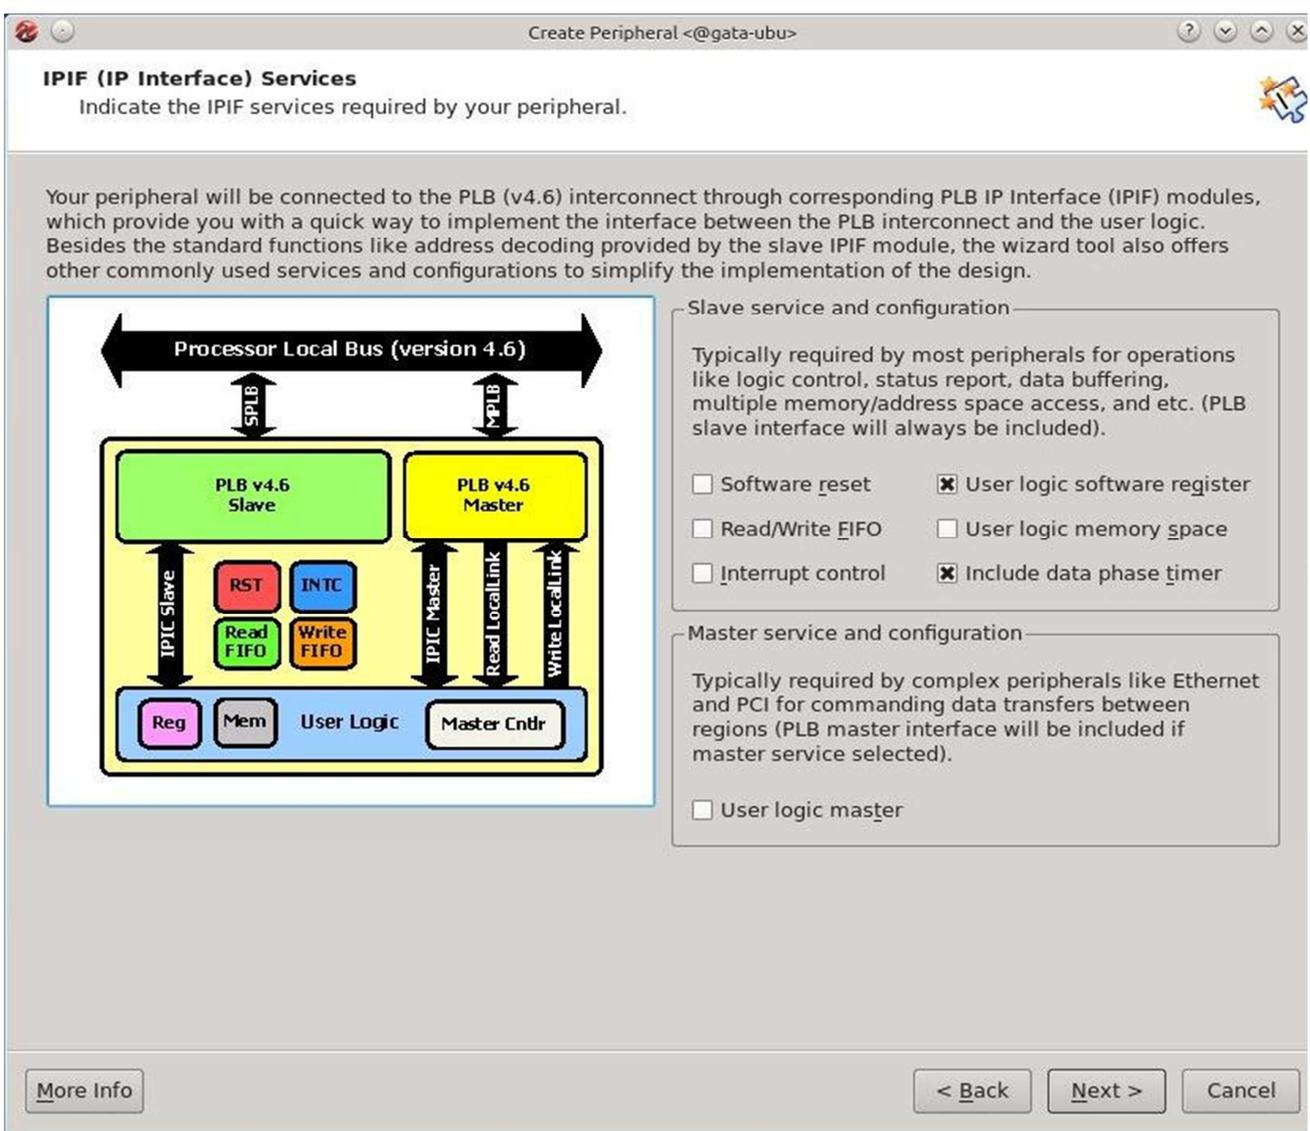

Figure 7: Create and Import Peripheral Wizard (Step 6)
Step 6: The PLB bus is based on a Master/Slave configuration. The bus can have multiple masters and slaves. In the design created in the previous Tutorial, Microblaze acted as the master of the PLB bus while all other peripheral acted as slaves. The master initiates the transactions and controls the data flow, while the slave peripheral waits for a transaction from the master. The master of the bus sends requests to the a specific address space, and the slave peripheral decodes that address and responds to the request if the address is recognized. The address of each peripheral is unique and all transaction are memory mapped. In this step we specify the configuration of the core we are about to create. The wizard will add VHDL logic block for slave, master, or both if required. You have to specify the components in the slave logic and if you want a master logic you can also do so. As you can see in **Figure 7**, you can add interrupt control, software reset, Read/Write FIFO, user registers, and more. Later you can modify these components and add more depending on the function of your peripheral. For the purpose of this tutorial select the options shown in **Figure 7**, then press “**Next**”.